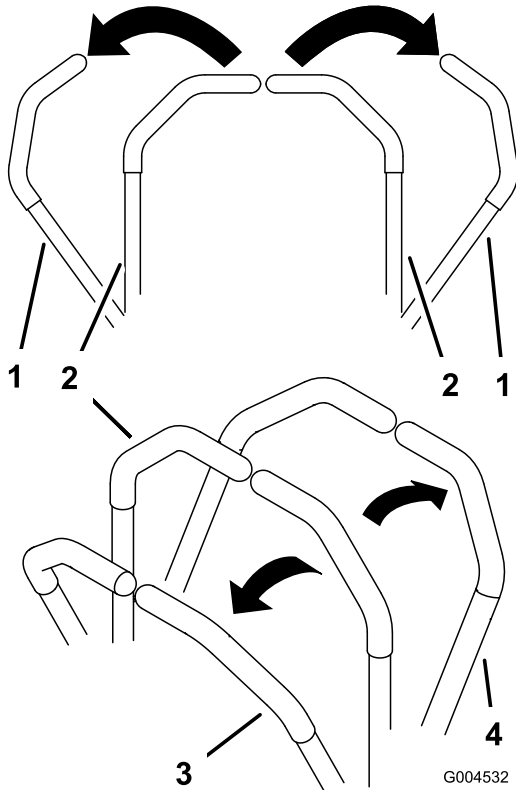

Figure 15
2. To go forward, slowly push the motion control levers forward (Figure 15).
To go straight, apply equal pressure to both motion control levers (Figure 15).
To turn, release pressure on the motion control lever toward the direction you want to turn (Figure 15).